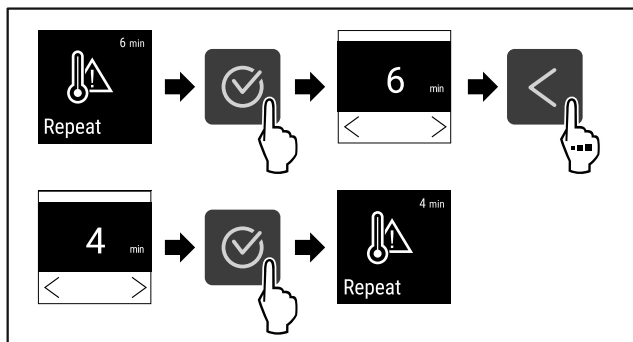

Fig. 116
- ▶ Complete steps (see Fig. 116).